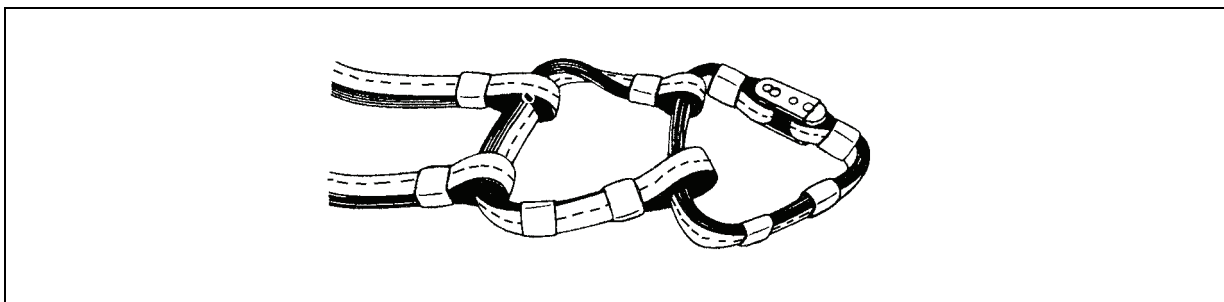

Figure 6-37. Basket Hitch
- The basket hitch (Figure 6-37) attaches sling legs to the load or to the ring. It is easy to remove this hitch from the load after a lift and to separate the sling legs.